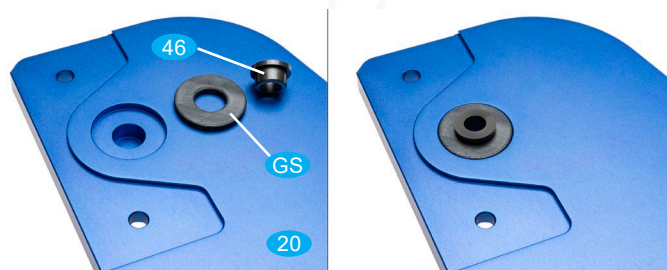

Fig. 1a: Mounting the plain bearing in the right portal cheek
- Press the plain bearing 46 together with the spacer ring GS into the bearing hole in the right portal cheek 20 (see Fig. 1a).